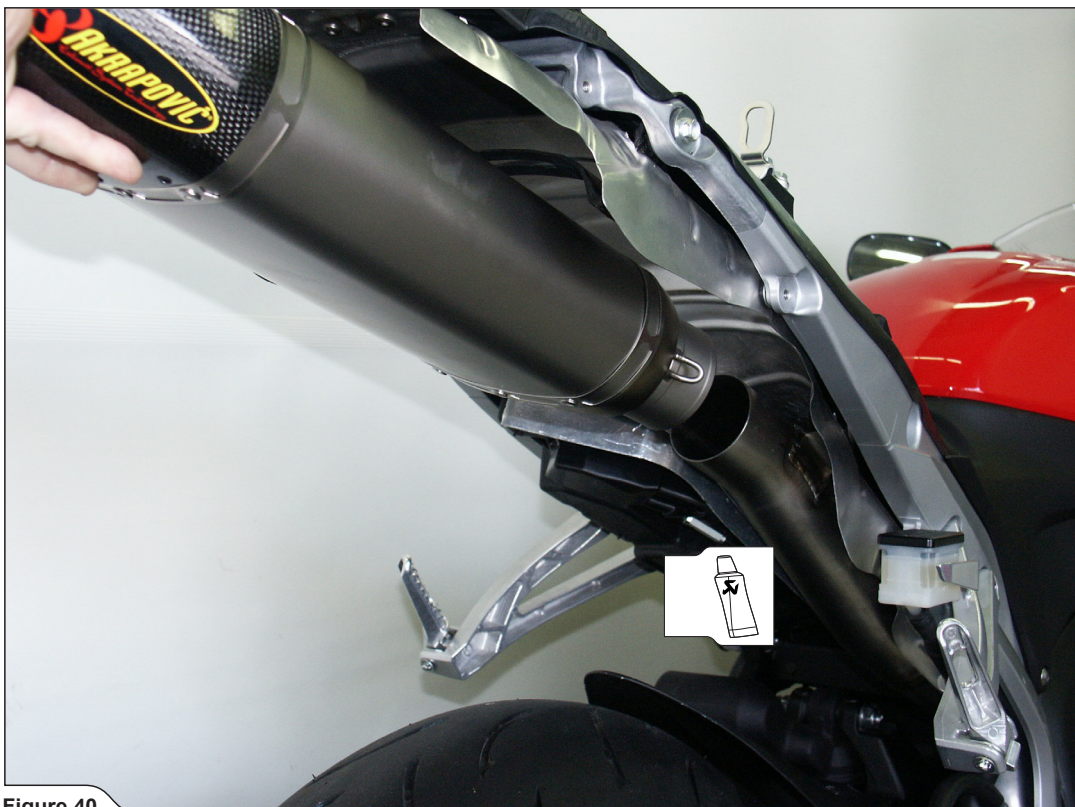

Figure 40
8. Position the muffler correctly and slide it onto the outlet side of the link pipe (Figure 40). For optional titanium independent link pipe only: coat the interior side of the input of the muffler with Akrapovič ceramic anti-seizing grease (white tube).